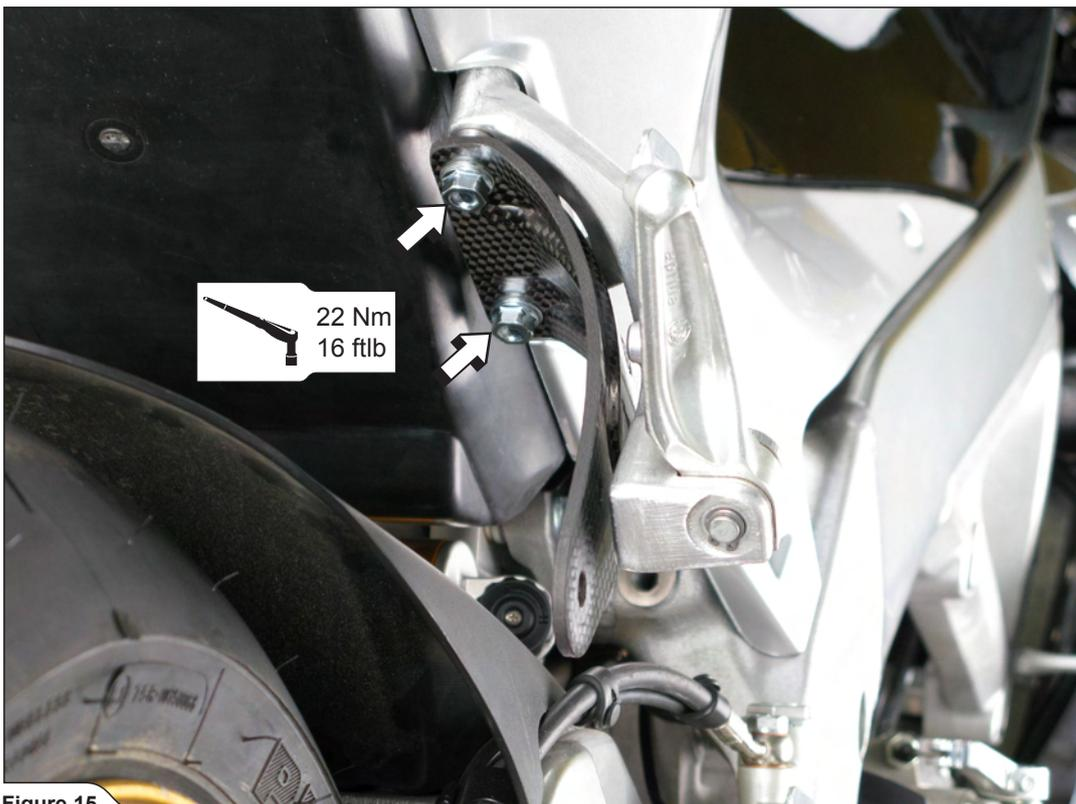

Figure 15
7. Attach assembled passenger's footrest to the subframe, using stock bolts or in case of optional carbon fiber bracket use Akrapovič bolts (Figure 15).